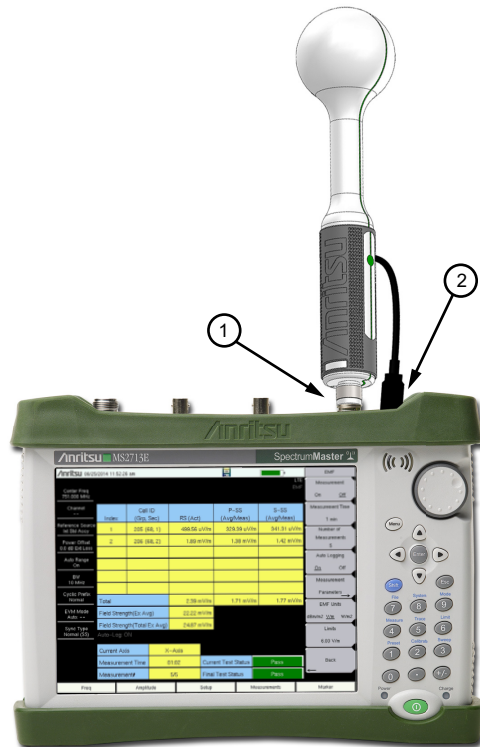

Figure 8-1. Connecting the Anritsu Isotropic Antenna
1. Connect the antenna RF connector to the **Analyzer/RF In** port on the instrument. See Figure 8-1. The antenna connector must be *finger* tight.